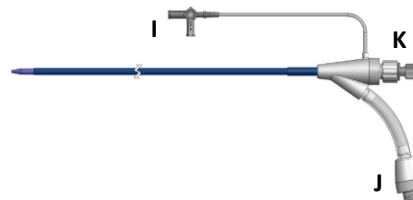

Figure 3: Aspiration Catheter with Dilator
The CLEANER Vac™ 18F Aspiration Catheter and Handpiece also includes an 18F (OD) x 115cm Aspiration Catheter and Dilator. The Aspiration Catheter (Figure 3) contains a radiopaque marker band, Side Port with 3-way stopcock (I), Aspiration Port (J), and Dilator Port (K). The Side Port allows for infusion of fluids. The Aspiration Port connects to the